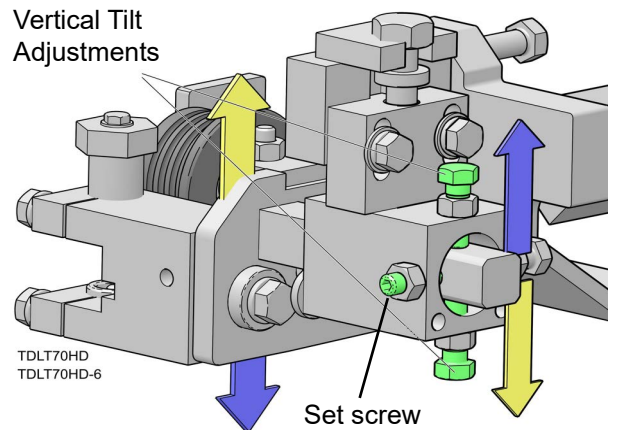

FIG. 9-8
8. Loosen one set screw at the side of the blade guide assembly. See FIG. 9-8.
9. Loosen the jam nuts on the top and bottom vertical tilt adjustment screws. See FIG. 9-8.